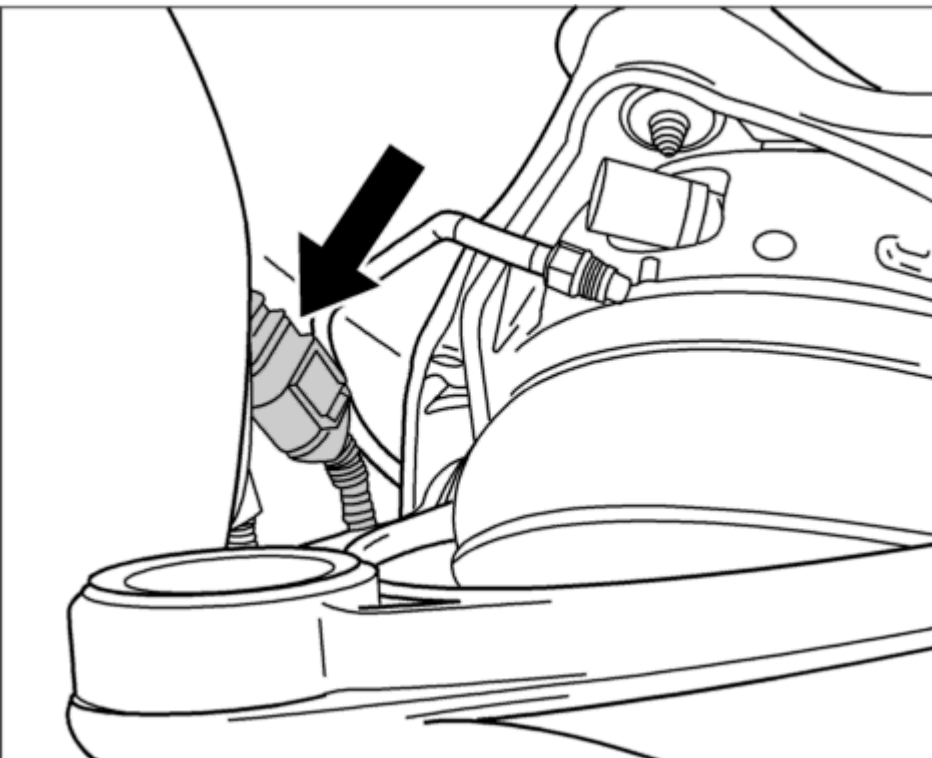

Fig. 84: Location of compact connector
4. Separate compact connector (in wheel housing on side member) -**arrow**- and the plug connections for the wheel acceleration sensor and self-levelling sensor. See **Fig. 84**.